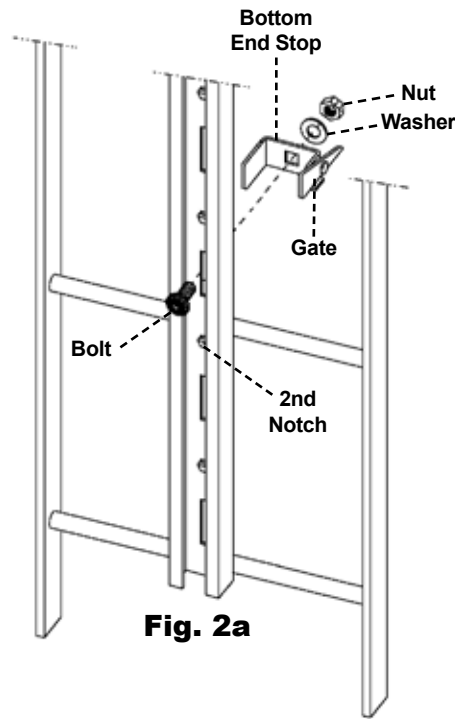

Fig. 2a
1. Fix the bottom end stop to the back of the bottom guide rail section, aligning the hole in the end stop with the oblong hole in the guide rail located above the second notch (see Fig. 2a). NOTE: The gate on the end stop must be located on the right side of the guide rail when facing the front of the system.